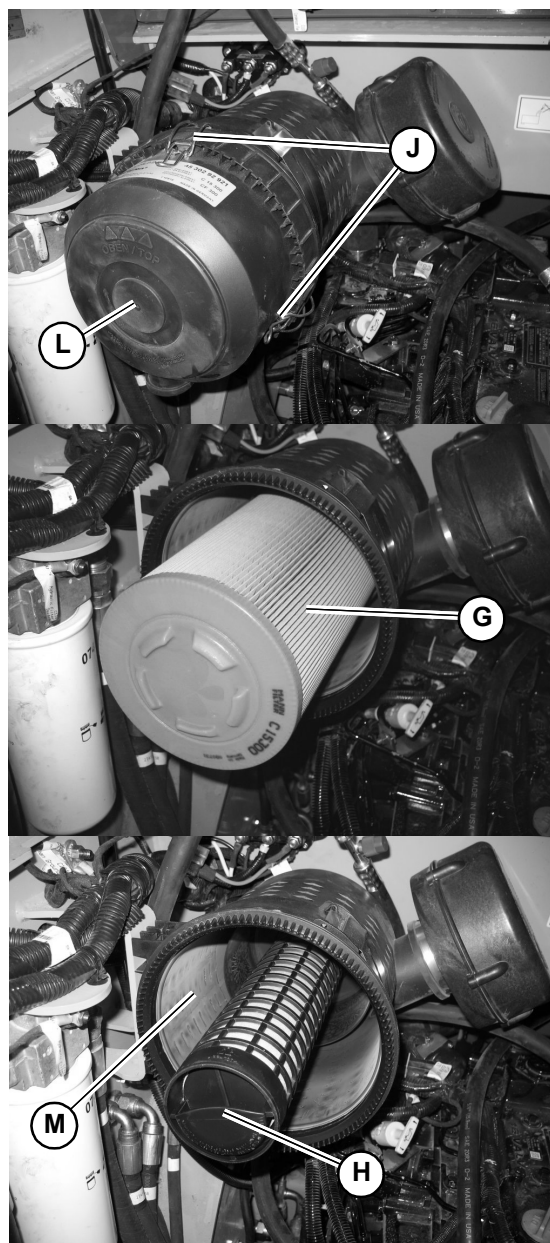

Fig. 89 – Engine Air Filters
The air cleaner consists of an outer (primary) filter element (G, Fig. 89), an inner (secondary) filter element (H) and an optional pre-cleaner.
3. Unlatch clamp (J, Fig. 89) on the air cleaner housing and remove the air filter cover (L).
5. Carefully remove the outer filter element (G, Fig. 89). Do not remove inner filter element (H) unless it will be replaced. If inner filter element (H) will not be replaced, skip to step 10.
6. Clean dirt from inside the air filter housing (M).